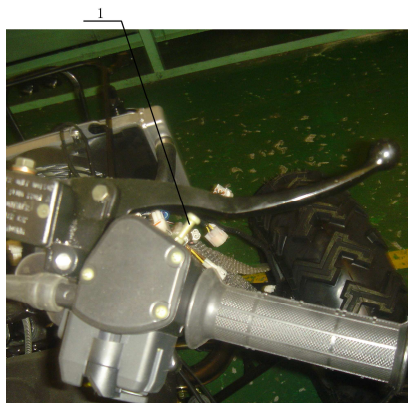

Figure 4-2-2
- b) Travel distance of the front brake lever should be kept between 10mm-15mm. Otherwise, please adjust the screw to meet required travel distance. Figure 4-2-2